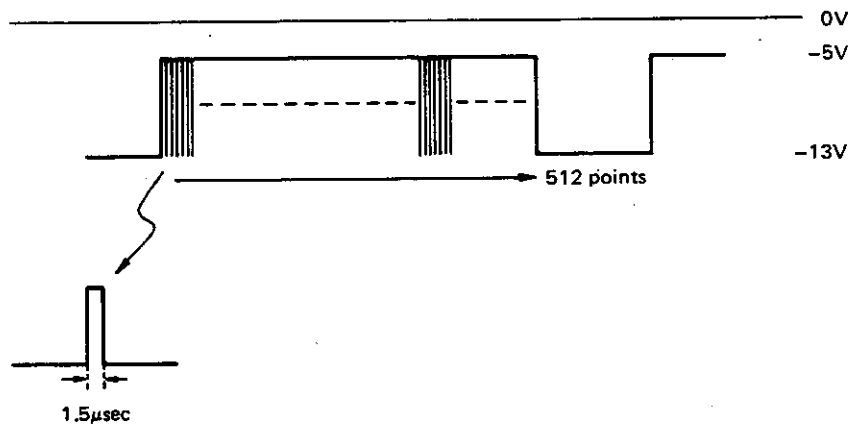

Fig. 6-22 Waveform at TP4
- (3) Check that the signal waveform output from peak detector as shown in Fig. 6-22 is observed at TP4.